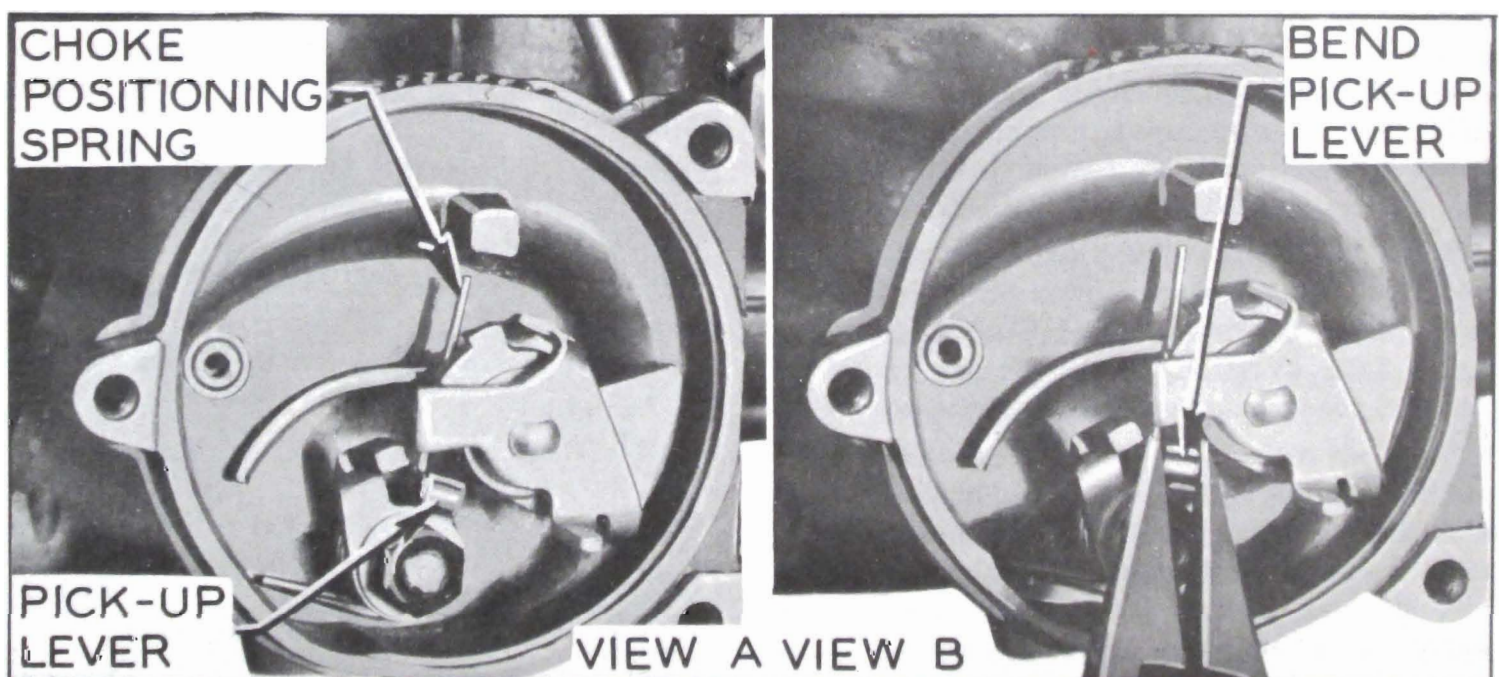

Figure 3-66—Choke Spring Pick-Up Lever Adjustment
spring overcomes any thermostat spring tension and causes the choke valve to partially open. See figure 3-66.
5. Back out $\frac{1}{4}$ turn (7 turns in from fully closed throttle position). At this throttle position, the choke positioning spring pick-up lever should just contact the choke positioning spring. If lever is not just at the point of contact, adjust by bending lever with needle-nose pliers. See figure 3-66.